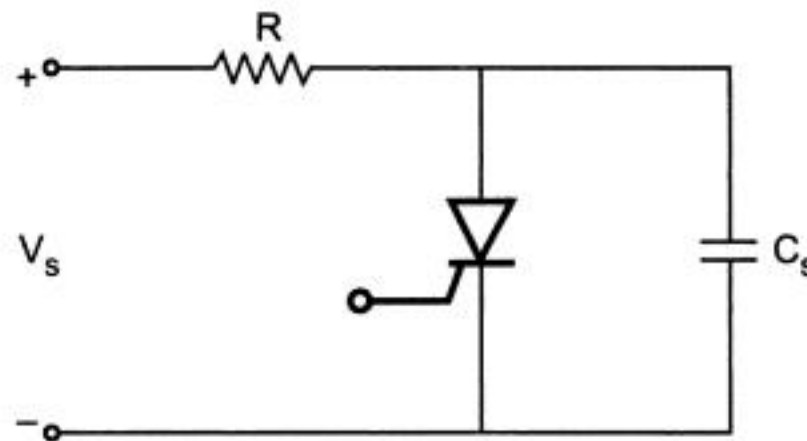

Fig. 2.11.3 Circuit of example 2.11.4
►►► **Example 2.11.4 :** The junction capacitance of the thyristor shown in Fig. 2.11.3 is 15 pF and is assumed to be independent of the off-state voltage. The value of charging current to turn-on the device is 5 mA and the critical value of $\frac{dv}{dt} = 200 \text{ V}/\mu\text{s}$. Determine the value of C_s so that the thyristor will not be turned on due to $\frac{dv}{dt}$.